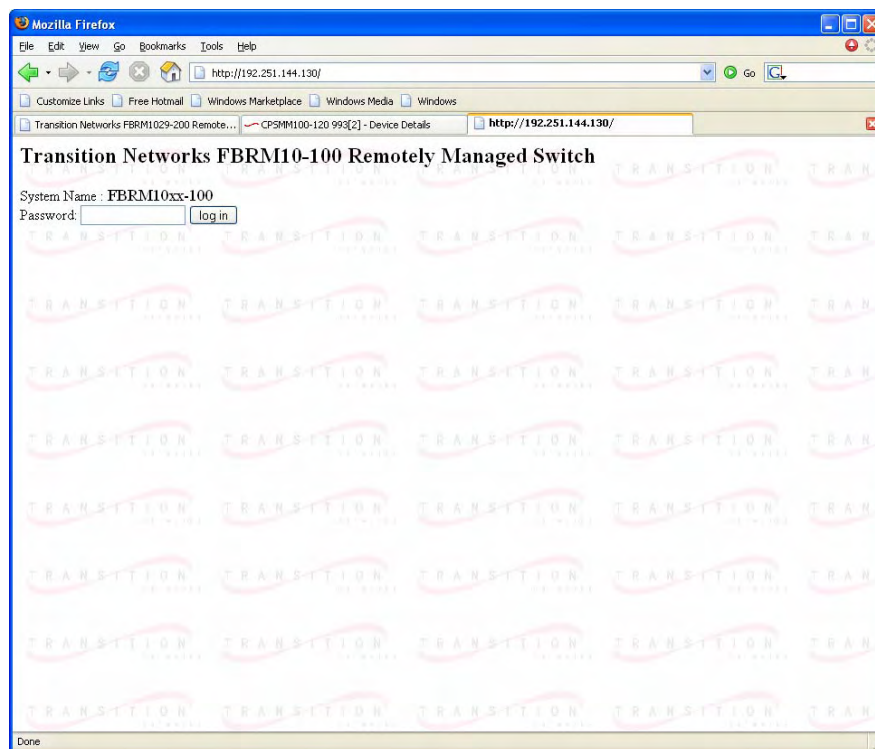

Figure 56: Device Password Screen
3.	Click the GO button to bring up the password screen, shown in Figure 56.